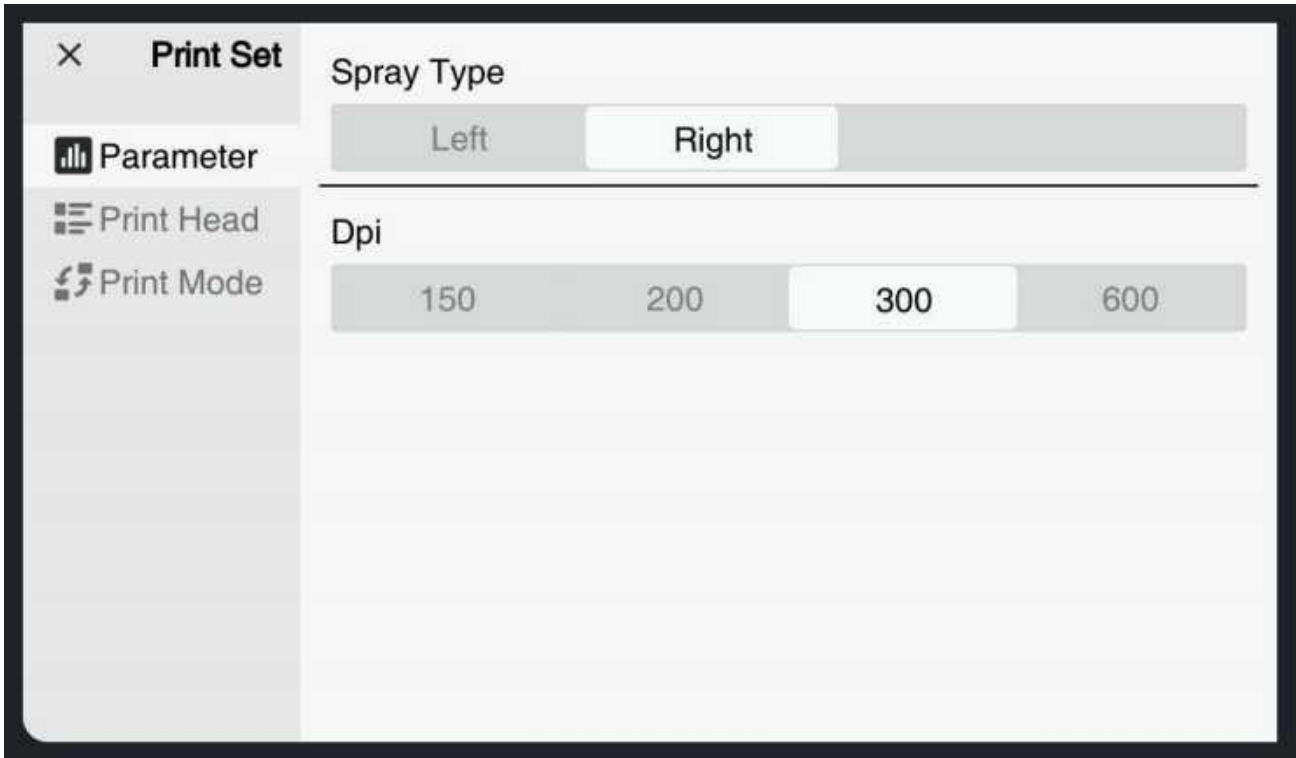

Figure 7-6
6. Clicking the "Print Settings" button on the main interface, and setting the spray type to right, DPI-300; selecting to turn on the print head 1, 2, 3 and the print head offset in the print head setting interface, and the direct is forward; Trigger Mode: external signal +encoder. As shown in Figures 7-6 to 7-8.